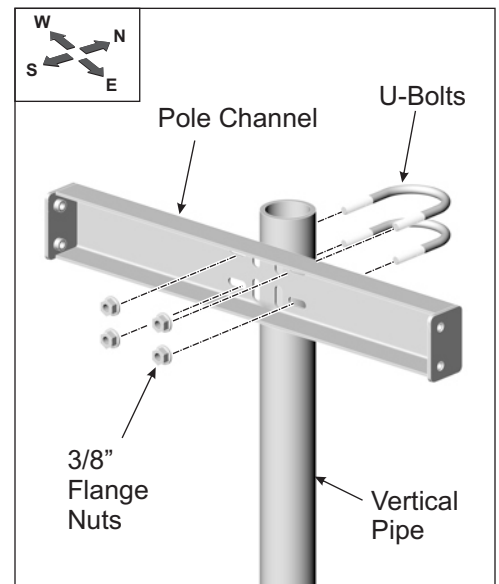

*Figure 1-2: Installing Pole Channel*
- C. Rotate the Pole Channel so it is facing south. (See Figure 1-2)